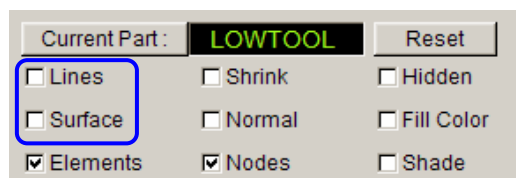

Figure 7.39 Display option
5. Toggle off the checkbox of **Lines** and **Surfaces** in **Display Options** located at the lower right corner of the screen. See Figure 7.39.